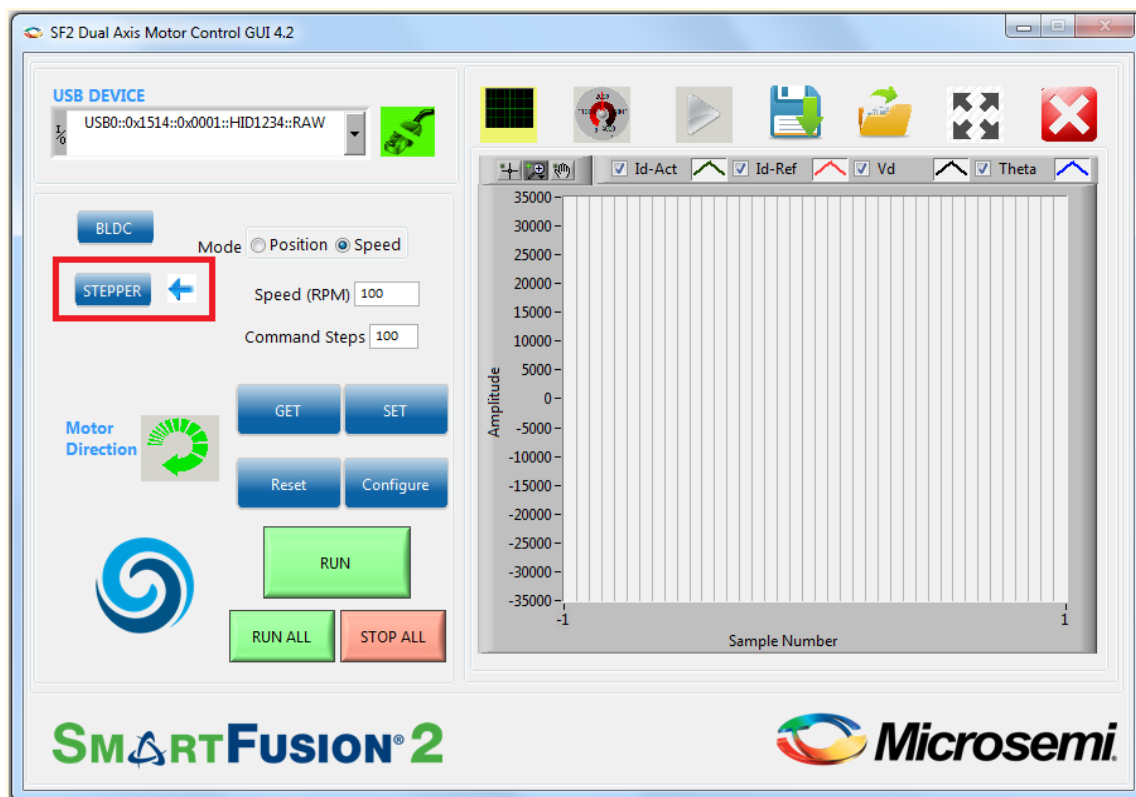

Figure 26 • SmartFusion2 Motor Control GUI - Stepper Motor Window
2. Verify that the Speed mode option is selected. Figure 26 shows the **SmartFusion2 Motor Control GUI - Stepper motor** window.
3. Click **GET** to see the current parameters. Click **Configure** to open a list of configurable parameters. Refer to Figure 26.